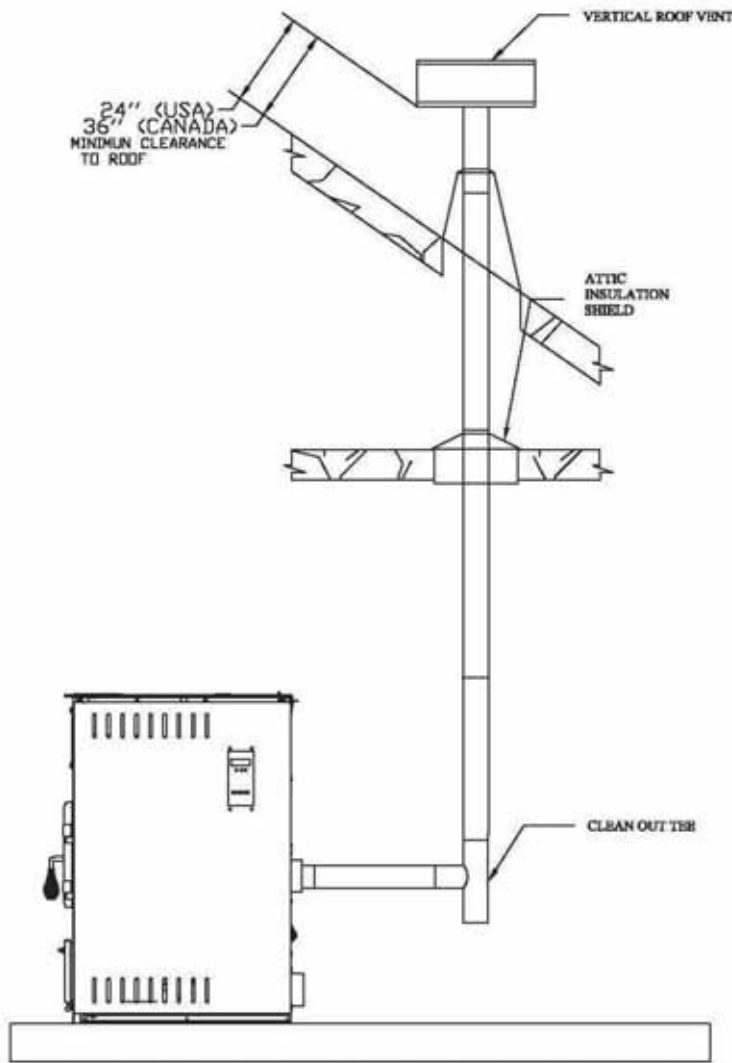

FIGURE 13
(Refer to Figure 13)
3. Install a blanking plate and the chimney pipe, and if used the outside air pipe, as shown in Figure 13.